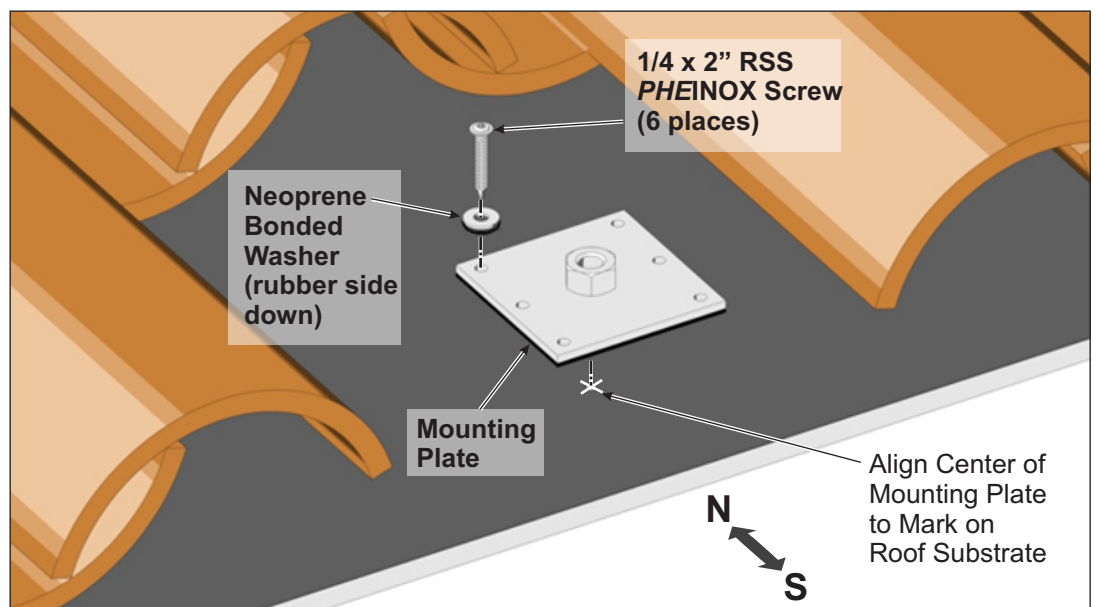

Figure 4: Attaching Mounting Plate to Roof Substrate
- F. Drive the RSS *PHEINOX* screws into the substrate until the neoprene rubber protrudes from the washer edges. (See Figure 4)